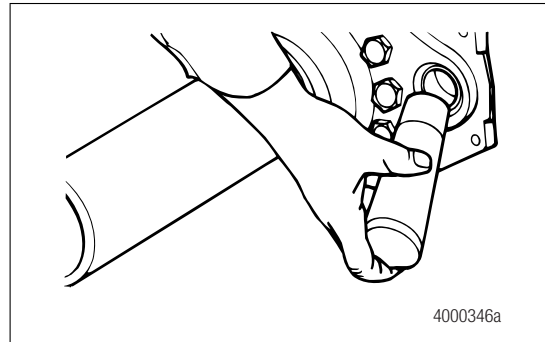

Figure 4.5
2. Use a seal driver to install new camshaft seals and new bushings into the cast spider and camshaft bracket. Figure 4.5.